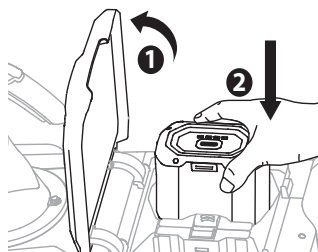

Fig. 4
1. Raise the battery cover. (1, Fig. 4)
3. Align the ribs of the battery pack with the mounting slots in the battery port. Insert the battery pack into the battery holder until you hear a “click”. Ensure that the latch snaps into place and the battery feels secure. (2, Fig. 4)